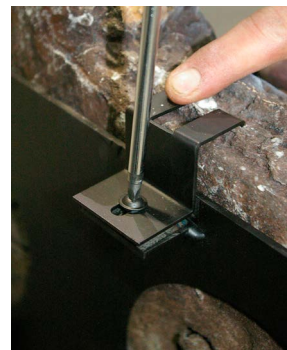

Figure 18g. Securing Log 'A'.
Step 4. Once the 'Back Log 'A' is in it's final Position, hold the log in place, and reinstall the Retaining Clip (removed earlier). Press down the Clip for the sharp teeth to penetrate into the top of the Log. (**Figure 18g**). (**Philips head screwdriver required**).